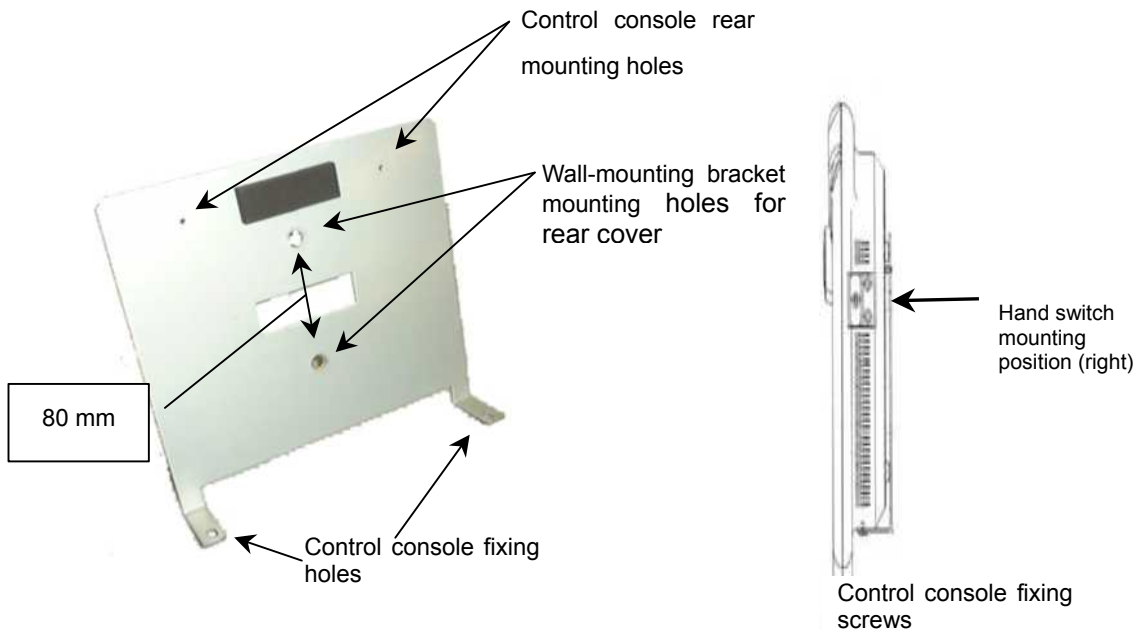
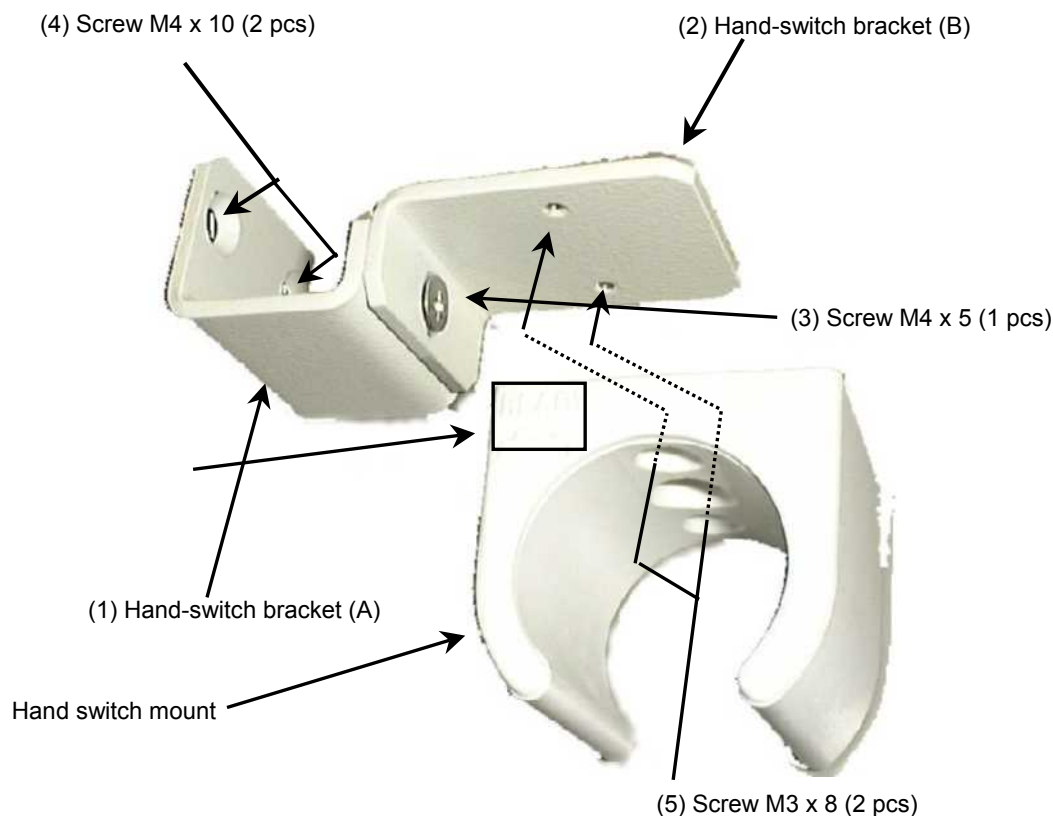

Fig. 5.4.8
Fig. 5.4.12 Hand Switch Bracket Assembly
To mount the GSC-2002S(Z) on a wall or other vertical surface, attach the wall-mounting bracket onto the wall and then mount the GSC-2002S(Z) unit to it as shown in Fig. 5.4.8 (Rear-surface mounting.)
Assemble the parts as shown in Fig. 5.4.12 See Fig. 5.4.8 (right-side mounting) or Fig. 5.4.11(left-side mounting).